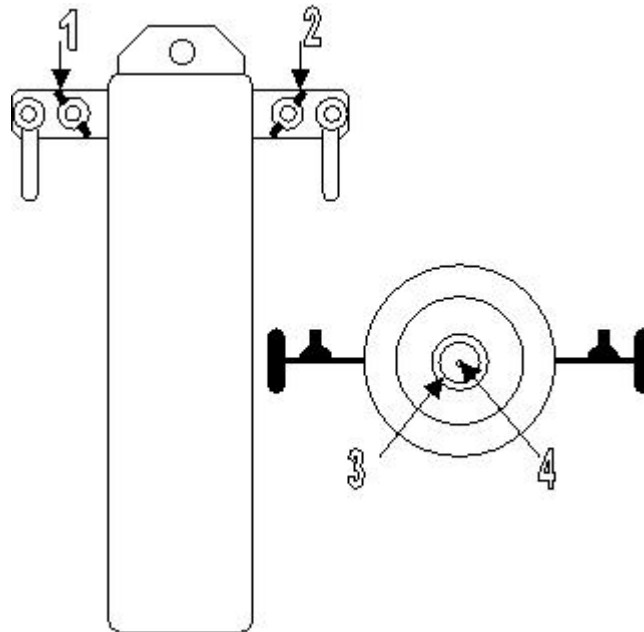

Figure 3. Balun Side and Bottom Views
10. Make the following resistance readings on the balun using an ohmmeter set to the lowest range (See Figure 3).